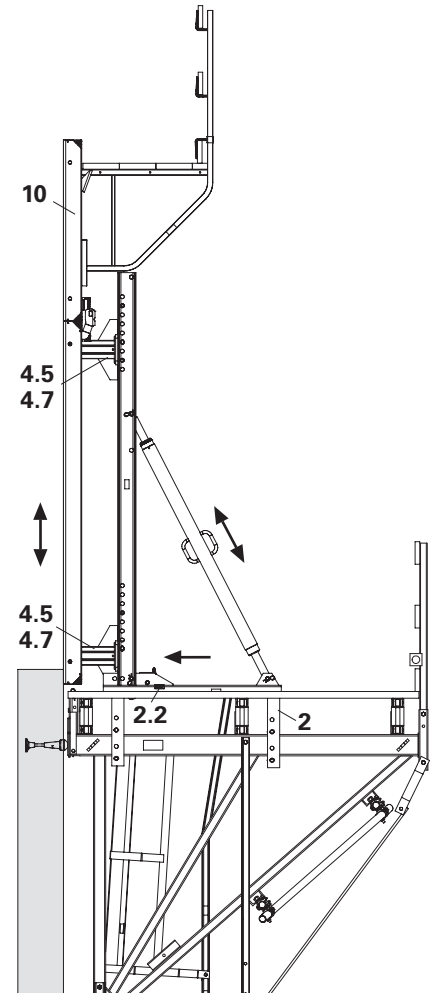

Fig. B2.22
5. Insert formwork unit (10) with TRIO Lifting Hook (10.6) into the Connector CB (4.5) and secure using bow (4.7).
7. Move carriage (2) with formwork to the wall. Secure carriage with wedge (2.2).
8. Align formwork. (Fig. B2.22)